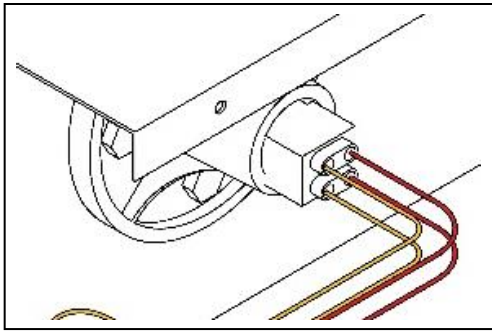

Figure 8
6.) Disconnect lamp plugs from lamps that will be replaced. See Figures 8 and 9.
12.) Reconnect lamp plugs. See Figures 8 and 9.